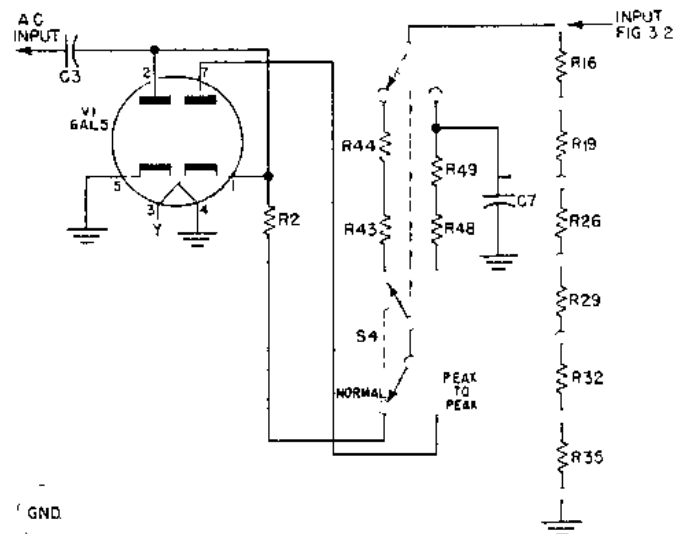

FIGURE 3.3 A.C. VOLTMETER CIRCUIT
a. Normal Position - With reference to Figure 3.3 and the switch in the normal position, the a.c. voltage to be measured is rectified by one-half of the 6AL5 twin diode, and the resultant d.c. voltage is applied to the divider network. Part of this voltage, as determined by the position of the Range Control, is fed to the input grid of one of the triodes of the bridge tube causing the bridge circuit to function. In this normal position the instrument is calibrated to read in terms of RMS voltages of a sine wave.
c. Negative contact potential is developed across the rectifier tube before any input voltage is applied, due to the normal emission of electrons by the cathode. In either position of the switch (normal or peak-to-peak), this negative potential is applied across the input voltage divider network and would cause the meter to deflect. To compensate for this undesirable deflection, a positive voltage from the B+ supply equal to the contact potential is fed to the voltage divider network through a 90-megohm resistor. The A.C. Voltmeter, 1200 volts, with reference to Figure 3.3 (a), consists of one-half of a 6 x 5 Diode Rectifier. This rectifier voltage is applied to R35 of the voltage divider network and impressed on a grid of the bridge tube circuit.